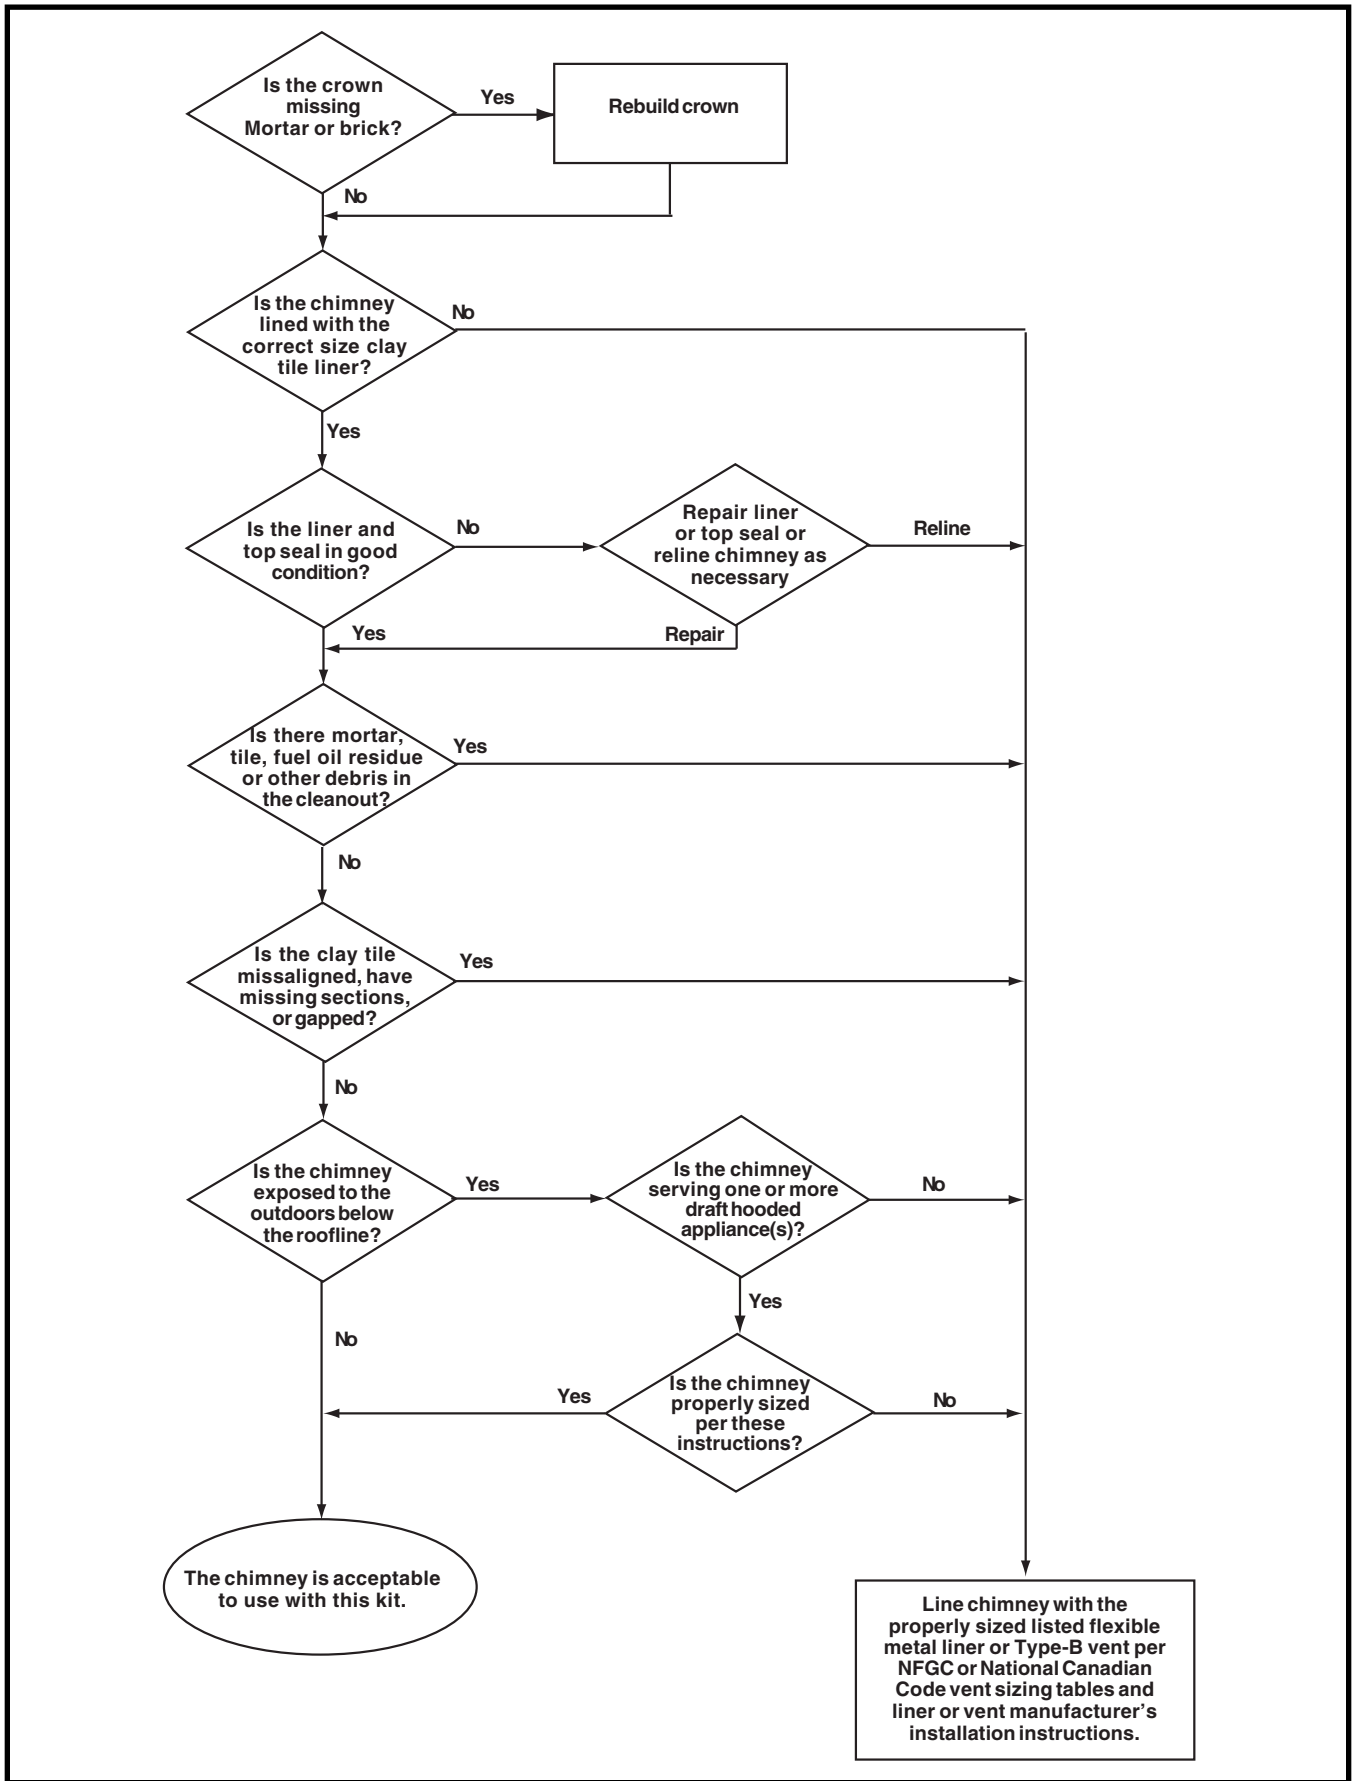

Figure 1. Chimney Inspection Chart
- Seal any unused openings in the venting system. Inspect the venting system for proper size and horizontal pitch as required in the National Fuel Gas Code, ANSI Z233.1 or CAN/CGA B149.1 or B149.2 Canadian Installation Codes, and these instructions. Verify that there is no blockage, restriction, leakage, corrosion or other deficiencies which could cause an unsafe condition. See Figure 1 (page 3)